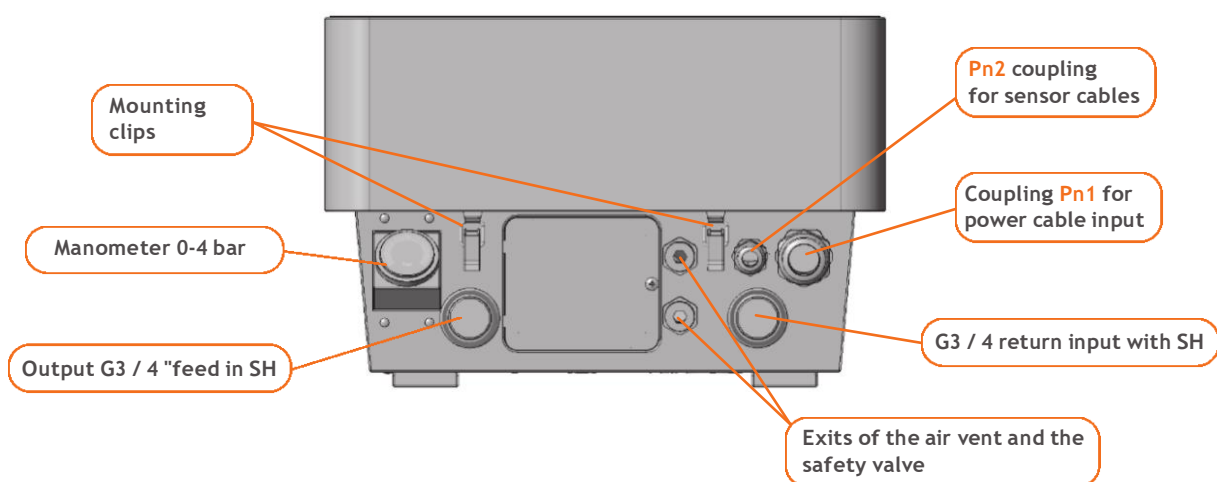

Figure 2 - Boiler connection panel (boiler view from below).
5.1.8 To remove the front panel, unclip the mounting clips at the bottom of the boiler body (see Figure 2), lift the panel upwards, gently pulling on itself. Disconnect the display connection cable without abrupt movements while holding the canopy panel. Then move the front panel to the side.